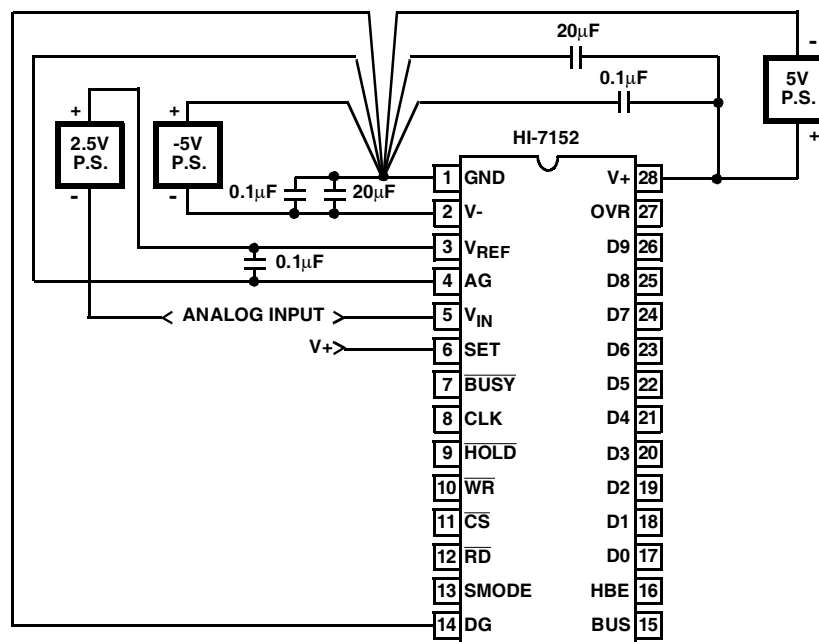

FIGURE 4. GROUND AND POWER SUPPLY DECOUPLING
The HI-7152 has three ground pins (AG, DG, GND) for improved system accuracy. Proper grounding and bypassing is illustrated in Figure 4. The AG pin is a ground pin that does not carry any current and is used internally as a reference ground. The reference input and analog input should be referenced to the analog ground (AG) pin. The digital inputs and outputs should be referenced to the digital ground (DG) pin. The GND pin is a return point for the supply current of the comparator array. The comparator array is designed such that this current is approximately constant at all times and does not vary with input voltage. By virtue of the switched capacitor nature of the comparators, it is necessary to hold GND firmly at zero volts at all times. Therefore, the system ground star connection should be located as close to this pin as possible.